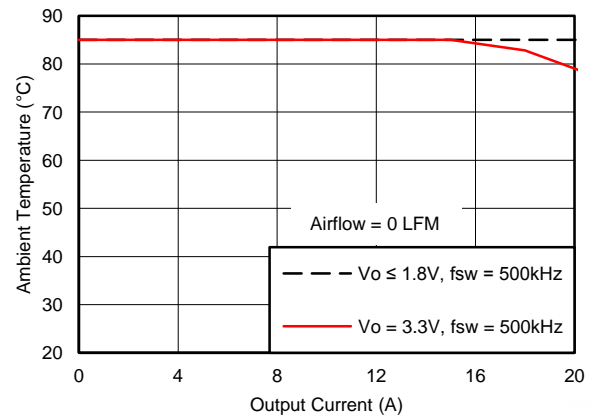
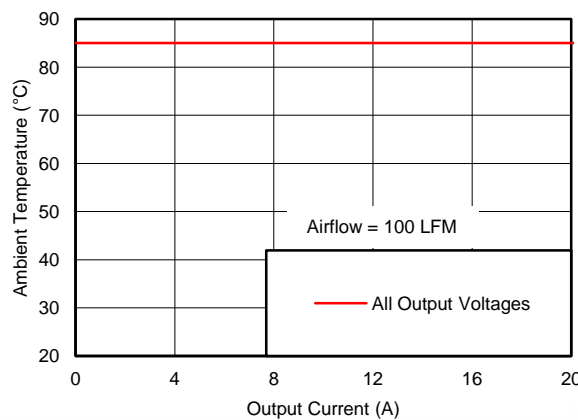

Figure 4. Safe Operating Area (0 LFM)
Figure 5. Safe Operating Area (100 LFM)
- (2) The temperature derating curves represent the conditions at which internal components are at or below the manufacturer's maximum operating temperatures. Derating limits apply to devices soldered directly to a 100 mm × 100 mm six-layer PCB with 1 oz. copper. Applies to Figure 4 and Figure 5.